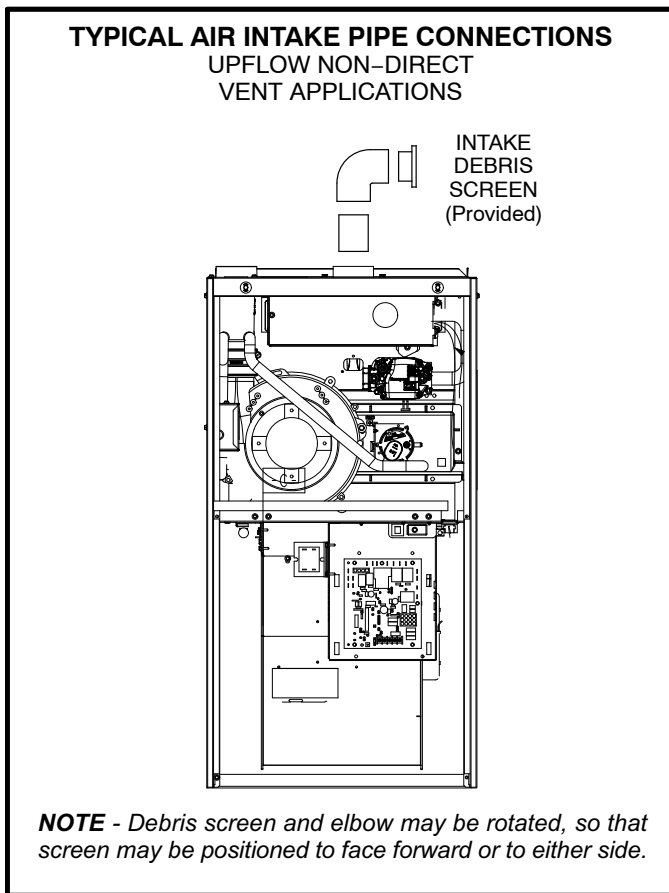

FIGURE 22
- 1 - Use field-provided materials and the factory-provided air intake screen to route the intake piping as shown in figure 22 or 23. Maintain a minimum clearance of 3" (76mm) around the air intake opening. The air intake opening (with the protective screen) should always be directed forward or to either side in the upflow position, and either straight out or downward in the horizontal position.